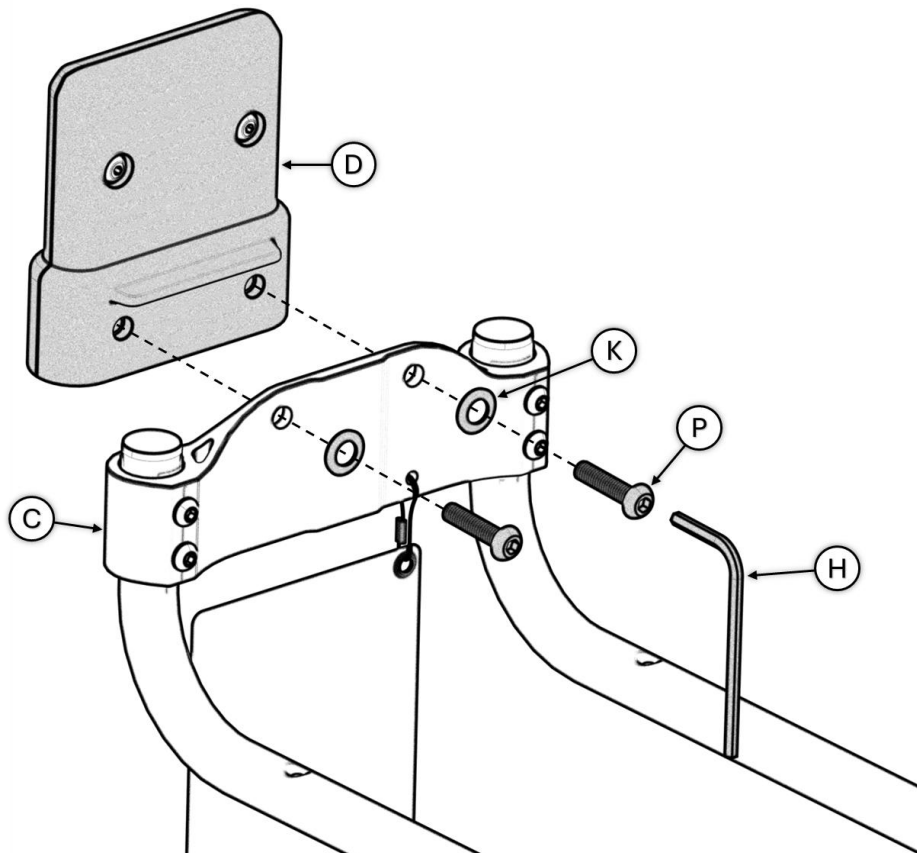

FIGURE 6
6. Insert Bolts **P** through Washers **K**, then Bracket **C**, then screw into Receiver **D**. Tighten firmly using Tool **H** as shown in, *FIGURE 6*.